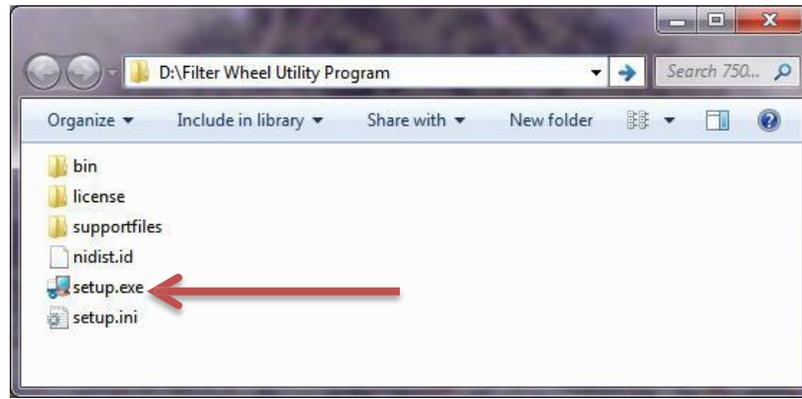

Figure 39: Setup Application
3. Double click the Setup.exe application, shown in Figure 39, application to begin the installation.